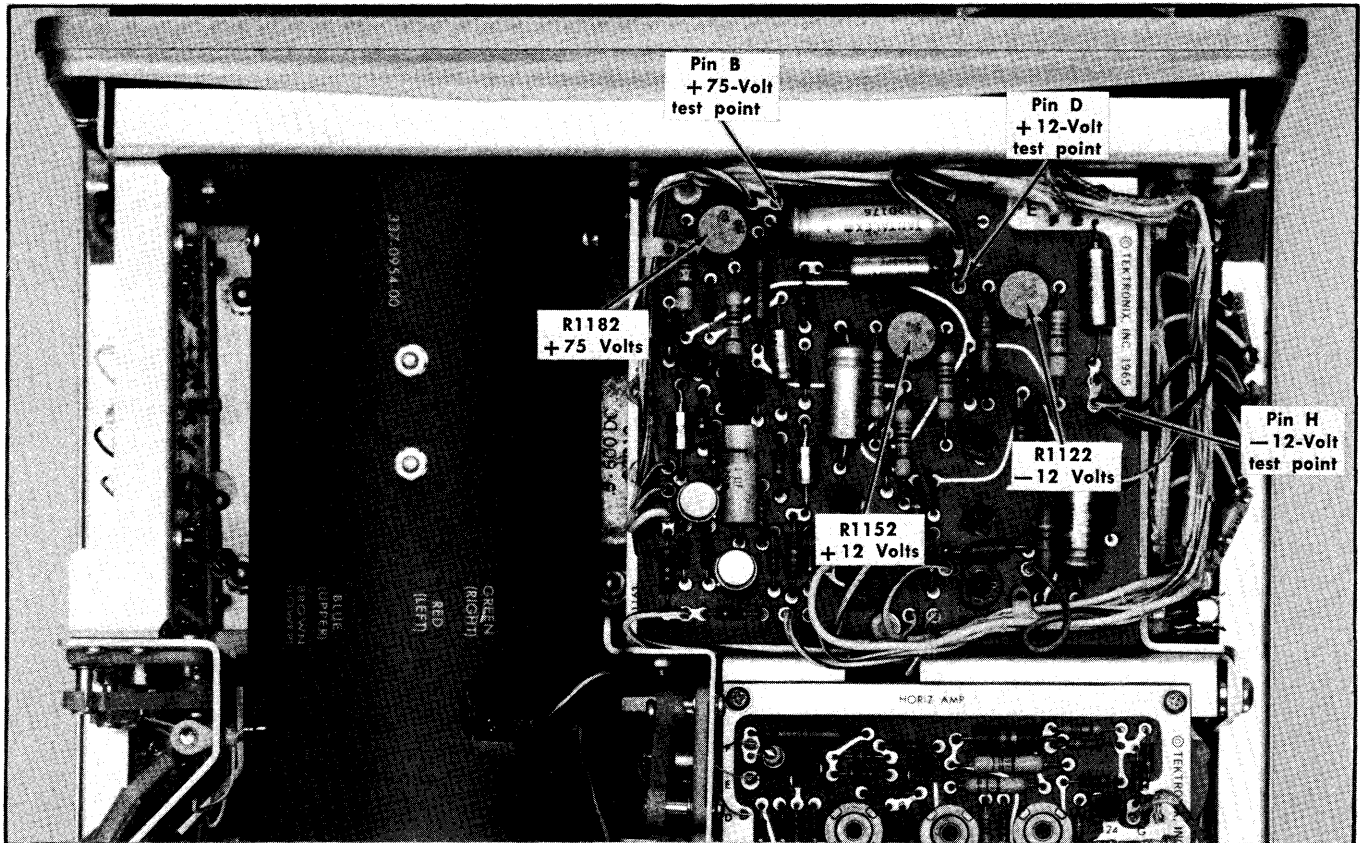
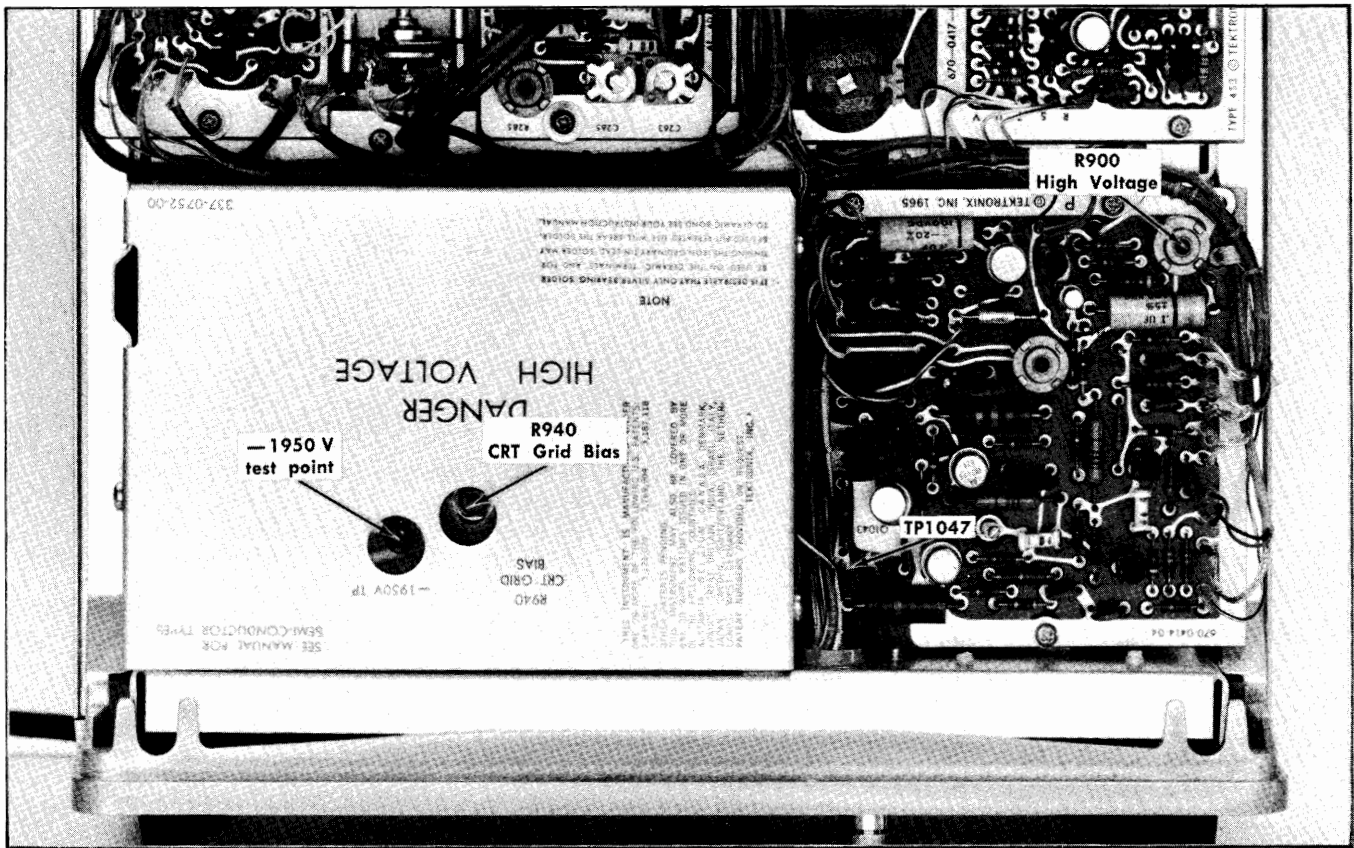
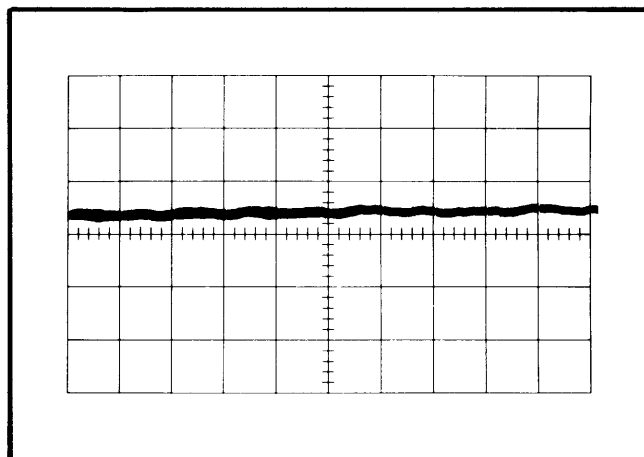

Fig. 5-2. Low-voltage power supply test points and adjustments (Low-Voltage Regulator circuit board).
Fig. 5-4. Location of high-voltage adjustments and test points (bottom).
Fig. 5-5. Typical test oscilloscope display of power-supply ripple (60-cycle line). Vertical 0.005 volt/division, sweep rate, five milliseconds/division.
- b. Connect the precision DC voltmeter from the -12-volt test point (pin connector 'H', Low Voltage Regulator Board; see Fig. 5-2) to chassis ground.
- d. ADJUST—-12 Volts adjustment, R1122 (see Fig. 5-2), for -12 volts, ± 0.042 volt.
- d. ADJUST—+12 Volts adjustment, R1152 (see Fig. 5-2), for a +1 volt meter reading ± 0.003 volt.
h. Connect the precision DC voltmeter from the +12-volt test point (pin connector 'D', Low-Voltage Regulator board; see Fig. 5-2) to chassis ground.
3. Adjust +75-Volt Power Supply ①
a. Connect the precision DC voltmeter from the +75-volt test point (pin connector 'B', Low-voltage Regulator circuit board; see Fig. 5-2) to chassis ground.
c. ADJUST—+75 Volts adjustment, R1182 (see Fig. 5-2), for +75 volts, ± 0.278 volt.
4. Adjust High-Voltage Supply and Check Regulation. ①
a. Connect the DC voltmeter (use the precision 2 kV divider) from the -1950 V test point (see Fig. 5-4) to chassis ground.
c. ADJUST—High-Voltage adjustment, R900 (see Fig. 5-4), for -1950 volts ± 19.5 volts.
- Connect the precision DC voltmeter from TP1047 (Z Axis Amplifier board; see Fig. 5-4) to chassis ground.
- ADJUST—Crt Grid Bias adjustment, R940 (see Fig. 5-4), so the spot just disappears (it may be necessary to turn the horizontal POSITION control clockwise to bring the spot onto the viewing area).
- CHECK—Two millivolts (0.4 division) peak to peak maximum line frequency ripple on the -12-volt, +12-volt, and +75-volt supplies while changing the autotransformer output voltage throughout the regulating range selected by the Line Voltage Selector assembly on the rear panel. Power-supply test points are shown in Fig. 5-2. Fig. 5-5 shows a typical test oscilloscope display of ripple.